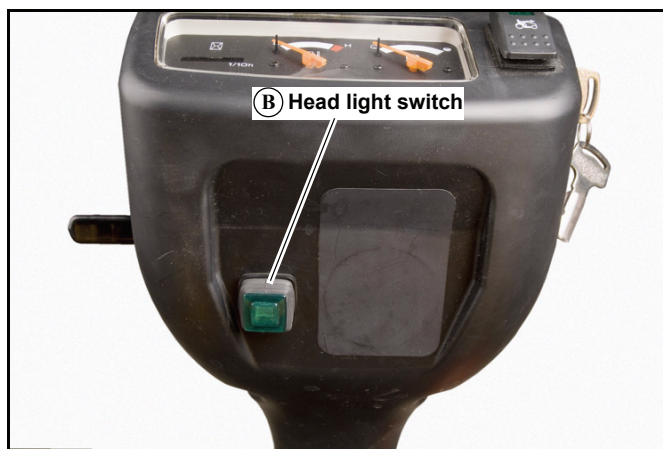

Figure 3-3
- B. Head light switch (Figure 3-3)** — This switch is located under the instrument panel. Push the switch in and rotate the ignition key to the “RUN” position to turn on the head lights.